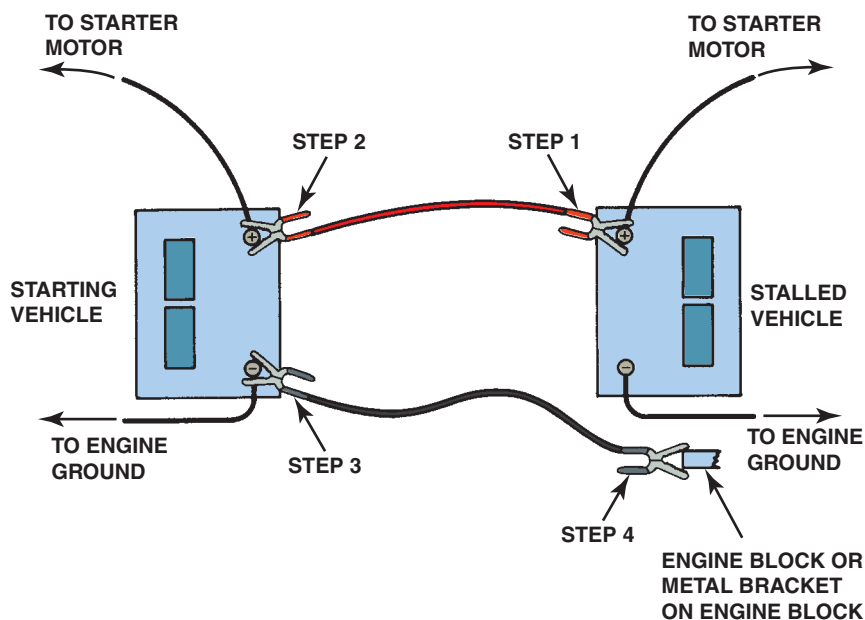

FIGURE 17-10 Jumper cable usage guide.
2. Connect good-quality copper jumper cables as indicated in the guide in ● **FIGURE 17-10**.